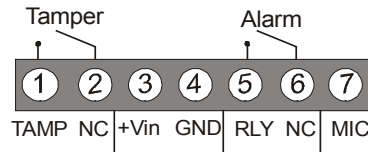

Figure 1: Terminal Block
- Connect the wires** to the terminal block (as shown in figure 1).